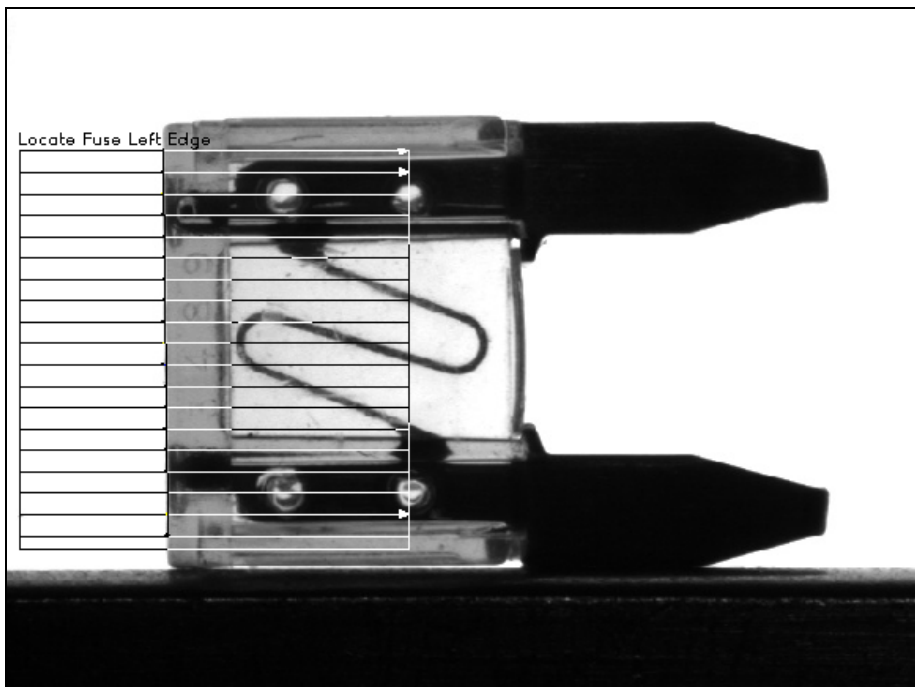

Figure 4-1. Finding a Straight Edge
4. Draw a region of interest (ROI) across the left edge of the fuse, as shown in Figure 4-1.